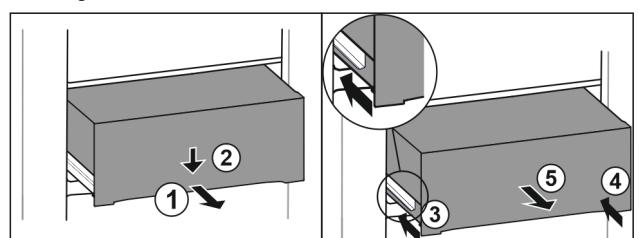

Fig. 103
- ▶ Push the left rail in by about 2 cm. Fig. 103 (1)
- ▶ Push the right rail in by about 2 cm. Fig. 103 (2)
- ▶ Lift left clamp. Fig. 103 (3)
- ▶ Lift right clamp. Fig. 103 (4)
- ▶ Remove drawer to the front. Fig. 103 (5)